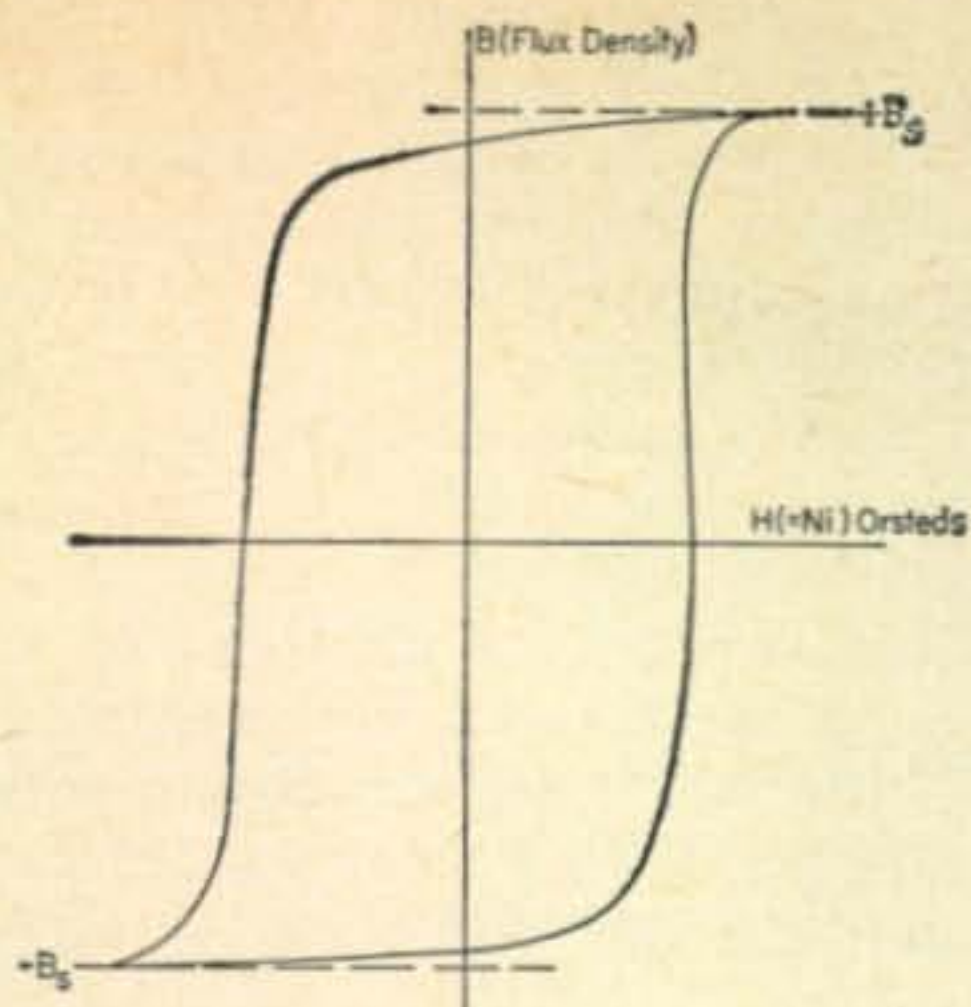

Fig. 3—A hysteresis loop for a typical converter transformer as explained in the text.
the magnetic force, H . H is equal to turns (N) times current, (i): $H = Ni$. Figure 3 represents a typical hysteresis loop for a converter transformer. The desirable condition would be to reach B_s of a given core material using as little current as possible (hence $H = \text{small}$). Inspection of formula (1) shows that the larger B_s is, the smaller N_1 can be for the same frequency of oscillation. It then would follow that the best type of d.c.-to-d.c. converter transformer cores would be those with a reasonably large B_s and low H . This would be a "square-loop" material. The current (and hence power) needed to produce the necessary H to reach B_s is part of the core loss and one of the factors in determining the efficiency of the converter. As frequency increases, the top and bottom of the loop "stay put" and the sides move out; the loop gets "squarer" requiring a larger magnetic force, H , to reach saturation. Therefore larger core losses occur with increasing frequency.